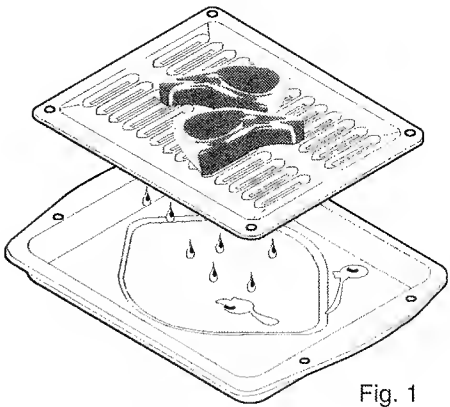

Fig. 1
5. Place the insert on the broil pan, then place the food on the insert (See Fig. 1; some models). **DO NOT** use the broil pan without the insert or cover the insert with **aluminum foil**. The exposed fat could ignite.